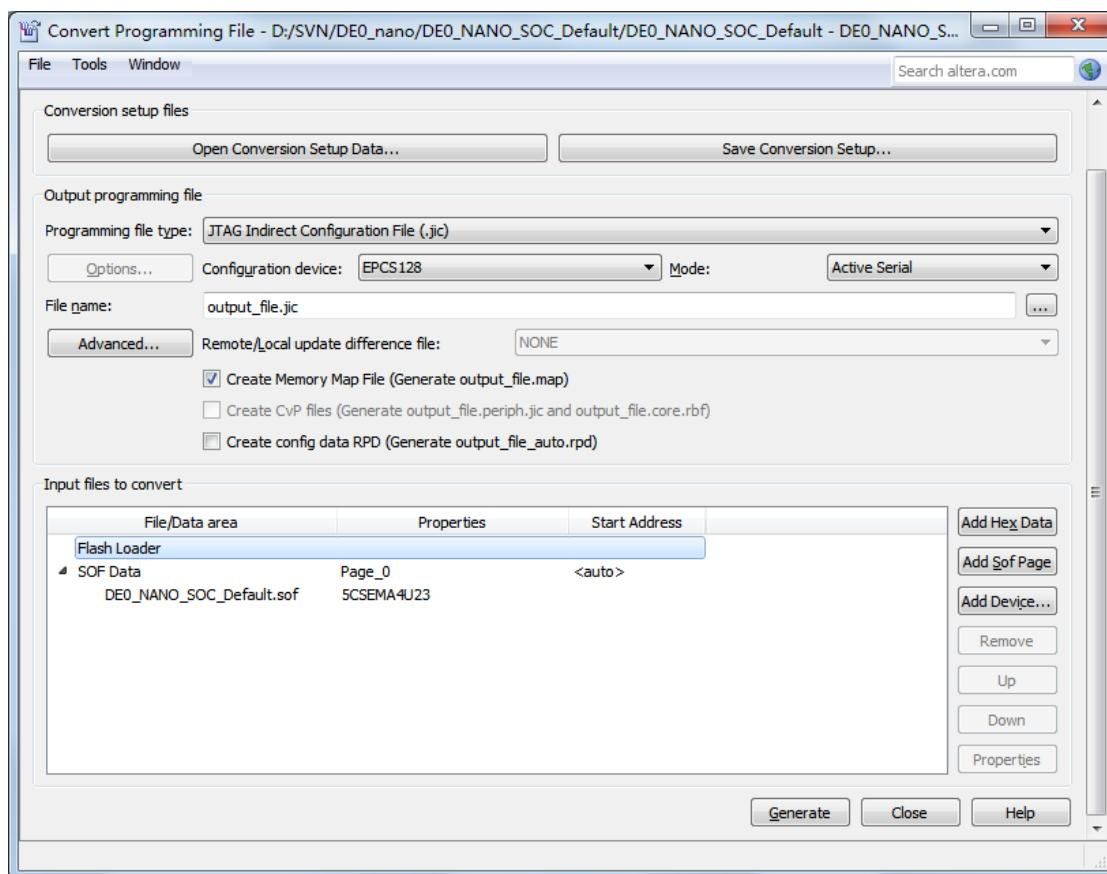

Figure 8-4 Click on the “Flash Loader”
10. Click on the **Flash Loader** and click **Add Device**, as shown in Figure 8-4.